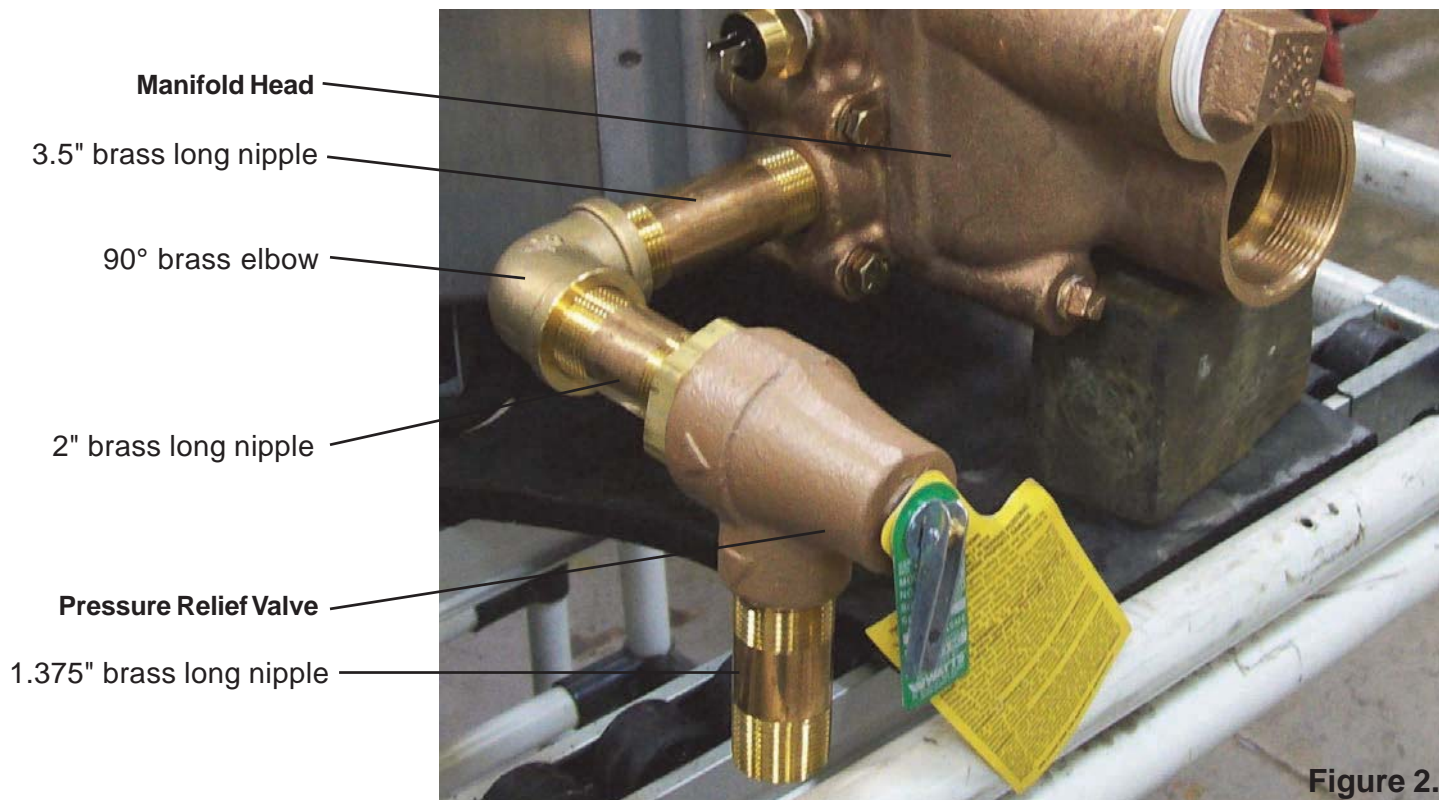

Figure 2.
3. Connect the 3.5" brass long nipple into the manifold head threads. Use a wrench to tighten. Do not overtighten. See Figure 2.
4. Attach the 90° brass elbow onto the end of the 3.5" brass long nipple. Using a wrench, hold the 90° brass elbow and with another wrench tighten the elbow onto the 3.5" brass long nipple. Do not overtighten the joints. Do not overtighten. See Figure 2.
5. Attach the 2.5" brass long nipple onto the 90° brass elbow. Use a wrench to tighten. Do not overtighten. See Figure 2.
6. Connect 1.375" brass long nipple to the Relief Valve drain outlet. Connect to 2.5" brass long nipple. Use a wrench to tighten. Do not overtighten. See Figure 2.